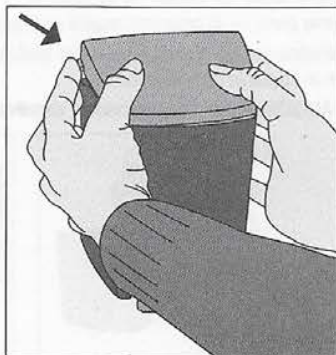

figure 2
**ClearVu Encore® -** Hold dispenser with thumbs near front of lid and pop lid up using tabs near the back of the dispenser (see figure 2). No key is necessary.